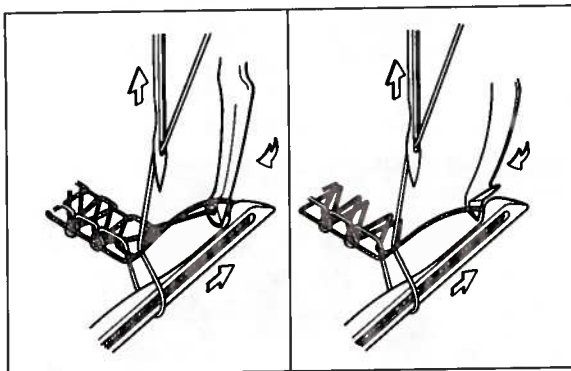
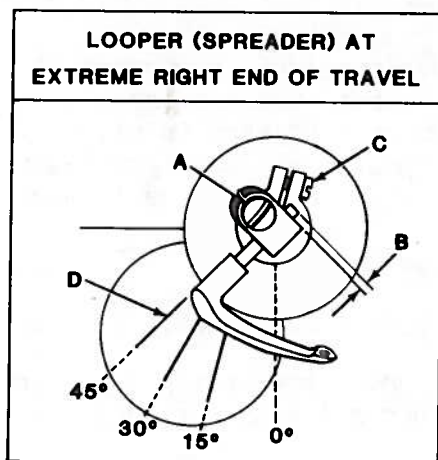
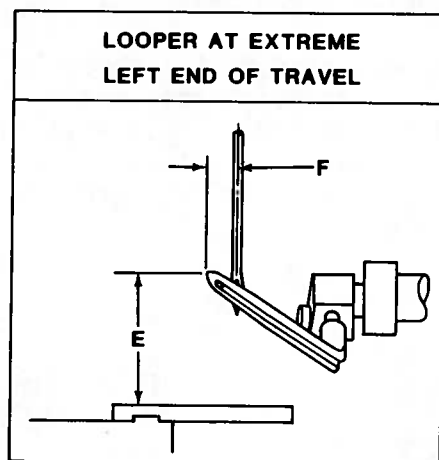
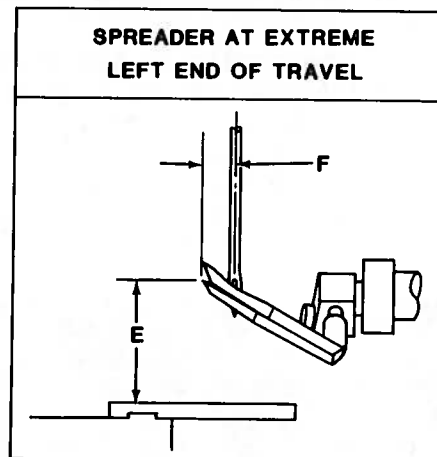

Fig. 11
Fig. 13
Fig. 14
Fig. 15
Rotate handwheel in operating direction and closely observe the path of the upper looper/spreader as it moves from extreme right position and approaches lower looper (Fig. 11). Point of looper or thread pick up on spreader must pass the notch in head of lower looper with minimum clearance. Upper looper should pass under the lower looper thread and spreader must pick up lower looper thread with lower point.
Figures 13, 14, 15 and the chart following relate approximate dimensions for adjusting upper looper/spreader at their extreme right and left positions of travel.
1. Position upper looper/spreader at the right end of travel, loosen clamp screw (A, Fig. 13) and set looper/spreader shank to dimension "B" above holder. Tighten screw (A) lightly.
2. With upper looper/spreader still positioned at the right end of travel, loosen screw (C) and rotate holder to align shank of looper/spreader to the specified line in casting denoting 15, 30 or 45 degrees back of vertical (location "D"). Tighten screw (C) lightly.
3. Rotate handwheel in operating direction bringing the upper looper/spreader into the LOWER looper. The POINT of upper looper or THREAD PICK-UP of upper spreader should be set to enter the notched area behind the head of the lower looper - See Fig. 11.
4. Continue to rotate handwheel in operating direction until upper looper/spreader is at extreme LEFT end of travel. Rotate upper looper/spreader holder as required to position POINT of upper looper to dimension "E", Fig. 14 or LOWER POINT of upper spreader to dimension "E", Fig. 15 from top of throat plate.
5. With upper looper/spreader still positioned at left end of travel, it may be necessary to move looper/spreader holder in or out of its shaft to set POINT of looper dimension "F", Fig. 14 or LOWER POINT of spreader dimension "F", Fig. 15 which is to the left of centerline of rear needle. Rotate handwheel to position upper looper/spreader to the right end of travel before tightening screw (C, Fig. 13) securely. Tighten screw (A).